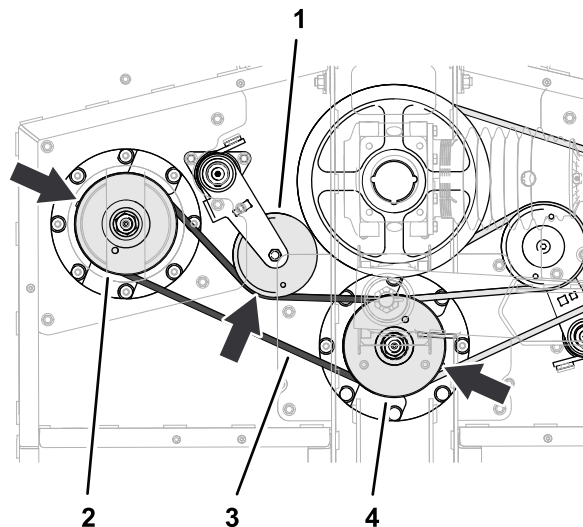

Figure 61
- Route the long belt around the left-spindle pulley and the lower groove of the center-spindle pulley (Figure 61).
- Use a breaker bar or similar tool to rotate the belt tensioner counterclockwise and slip the belt over the tensioner pulley (Figure 61).